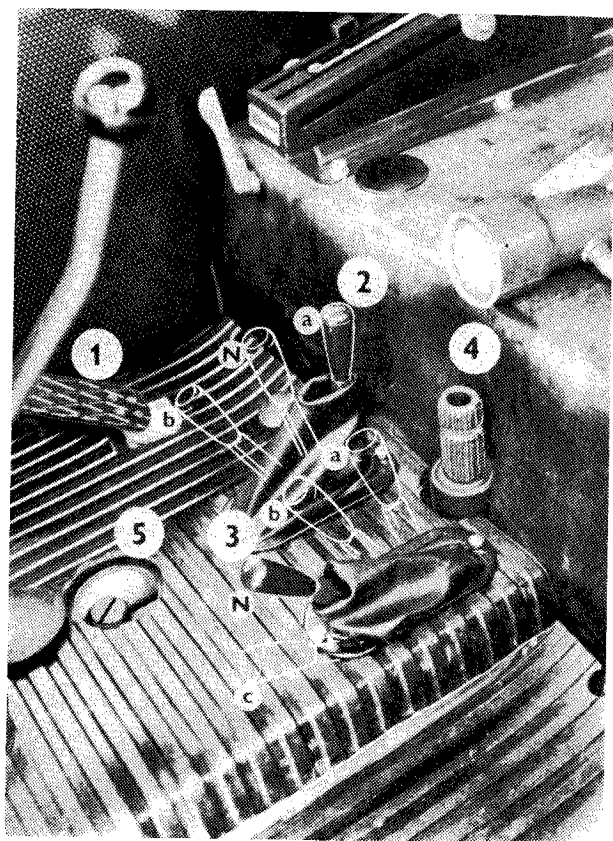

Fig. 10
4. Switching on reduced speeds (slow) — (Fig. 10/2a), road speeds (fast) — (Fig. 10/2b), neutral (Fig. 10/2N).
- 13. Gearbox and main transmission housing oil filling hole (Fig. 10/5).
3. Reduced and road speeds preselector (Fig. 10/2).
4. Hydraulic power lift and PTO shaft drive engagement lever (Fig. 10/3) engages:
5. PTO shaft speed gear shift lever for 540 and 1000 rpm^{-1} (Fig. 10/4) — fitted on Z 6011—7045 only.
1. Foot-operated fuel supply (throttle) control (Fig. 10/1).